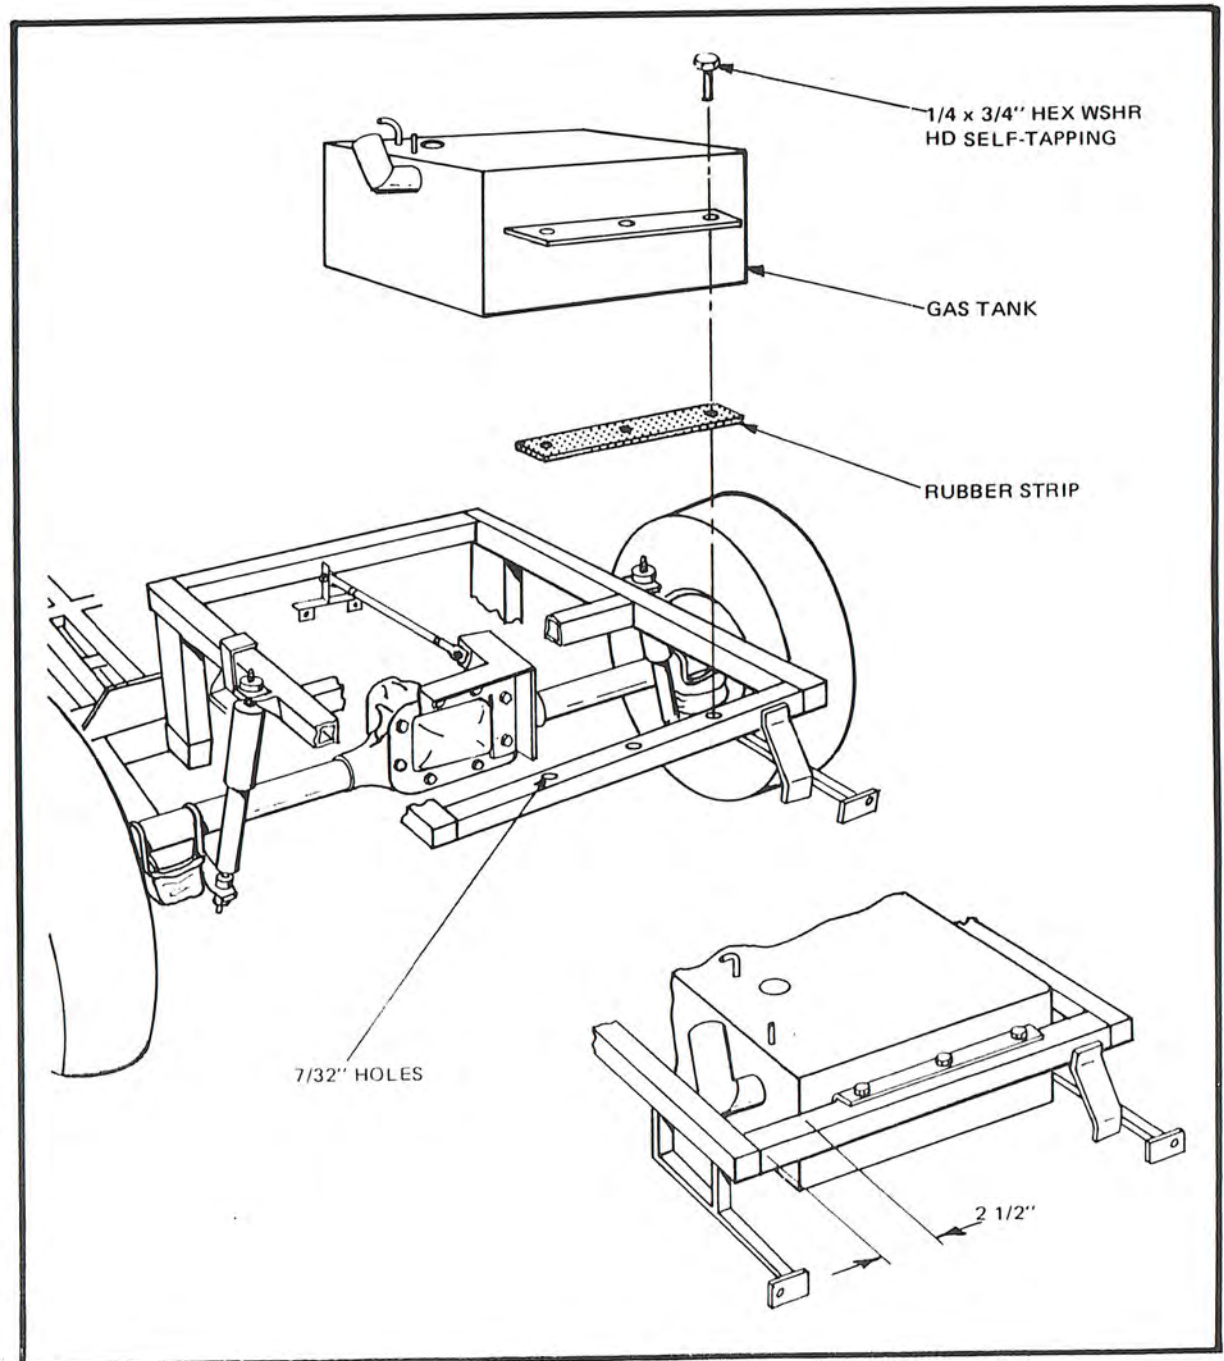

Figure 10
- Drop gas tank between rear frame members, with the angled gas filler on the left. Position tank $2 \frac{1}{2}''$ from side of frame. Mark hole locations. Remove tank and drill $7/32''$ holes at marked location. Glue strips of rubber matting to top of frame where it will contact gas tank flange. Reinstall tank and secure with $1/4 \times 3/4''$ hex washer head self tapping screws. (Figure 10)